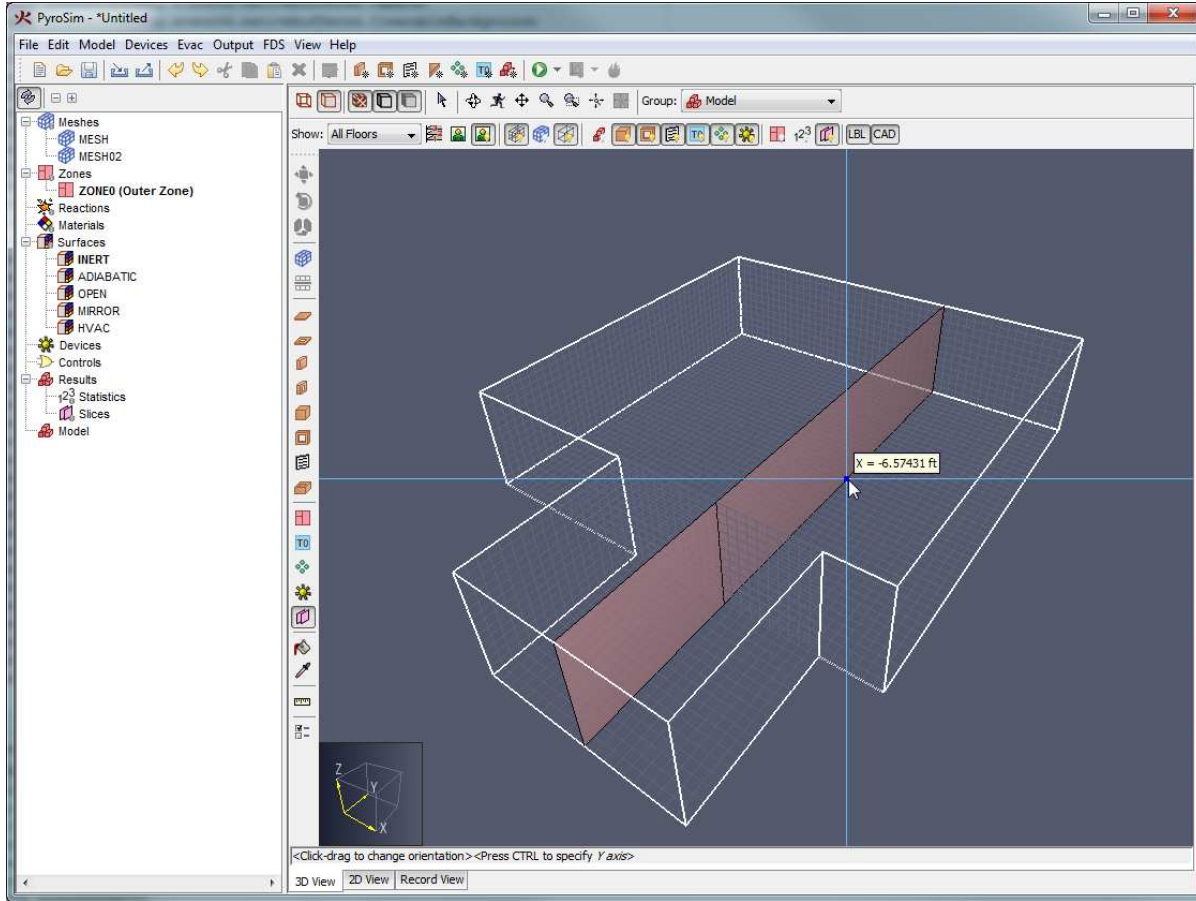

Figure 87. Drawing a slice with the planar slice tool
3. Move the cursor to the desired slice location. A preview slice will be displayed as shown in Figure 87.